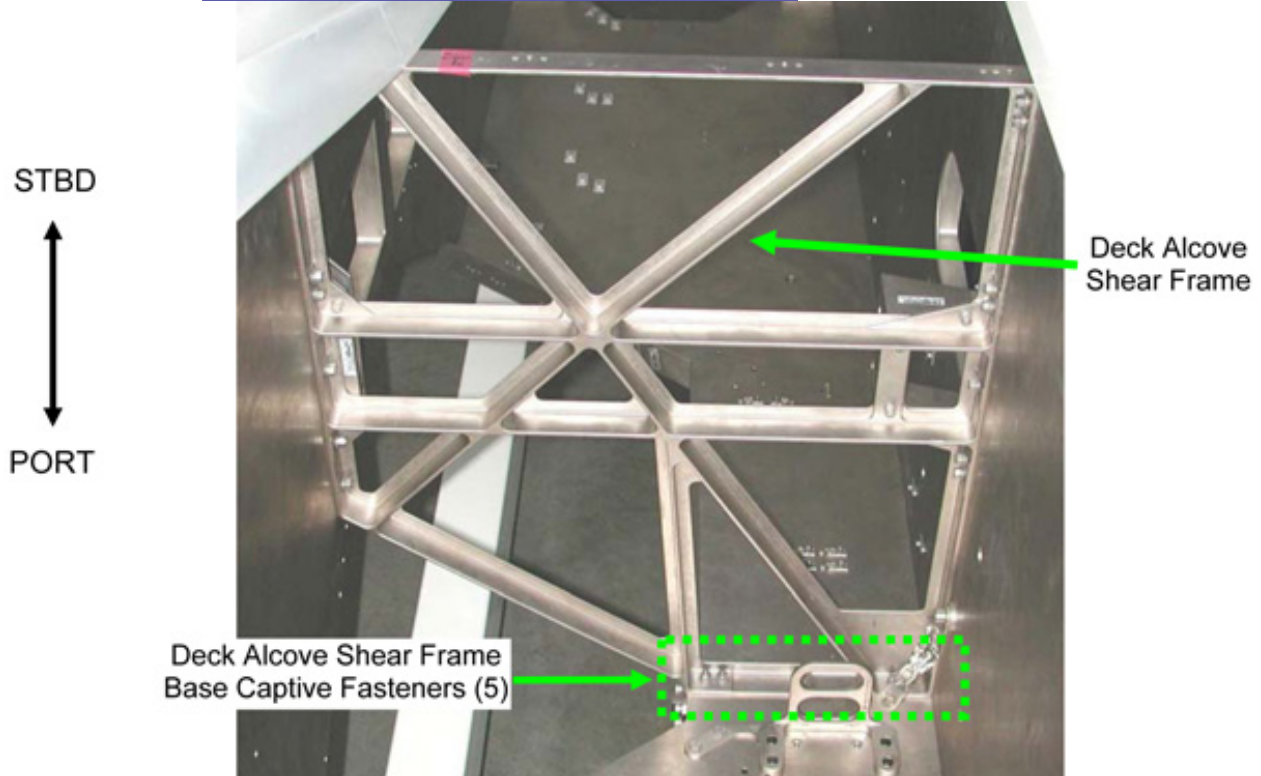

Figure 1. View of Deck Alcove Shear Frame.
- 2.1 Unfasten Deck Alcove Shear Frame Base captive fasteners (five) (Ratchet, 1/4" Drive; 6" Ext, 1/4" Drive and 10" Ext, 1/4" Drive; 5/32" Hex Head, 1/4" Drive). Refer to Figure 1.
Refer to Figure 1.